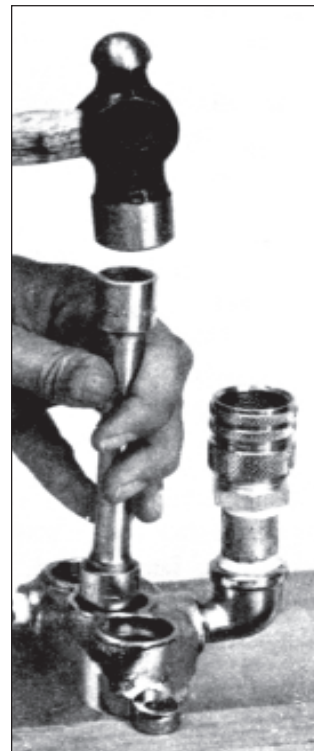

Figure 14
- b. Seals can be removed from manifold using a 1/2" socket and a hammer (Figure 14). Support the manifold on each side as shown and drive the seal out of the manifold.